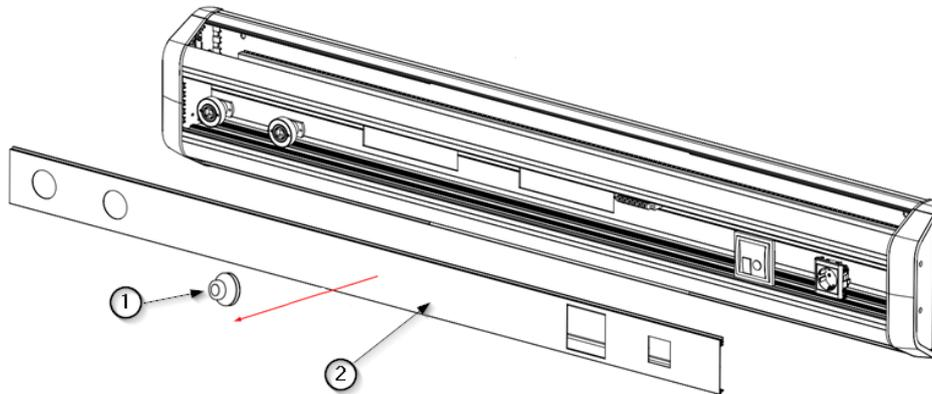

Fig.3 Removing the central cover of the gas rail
- Remove the front cover ② using the suction cup ① as shown in figure 3 to reveal the pre-installed gas inlets on the device.